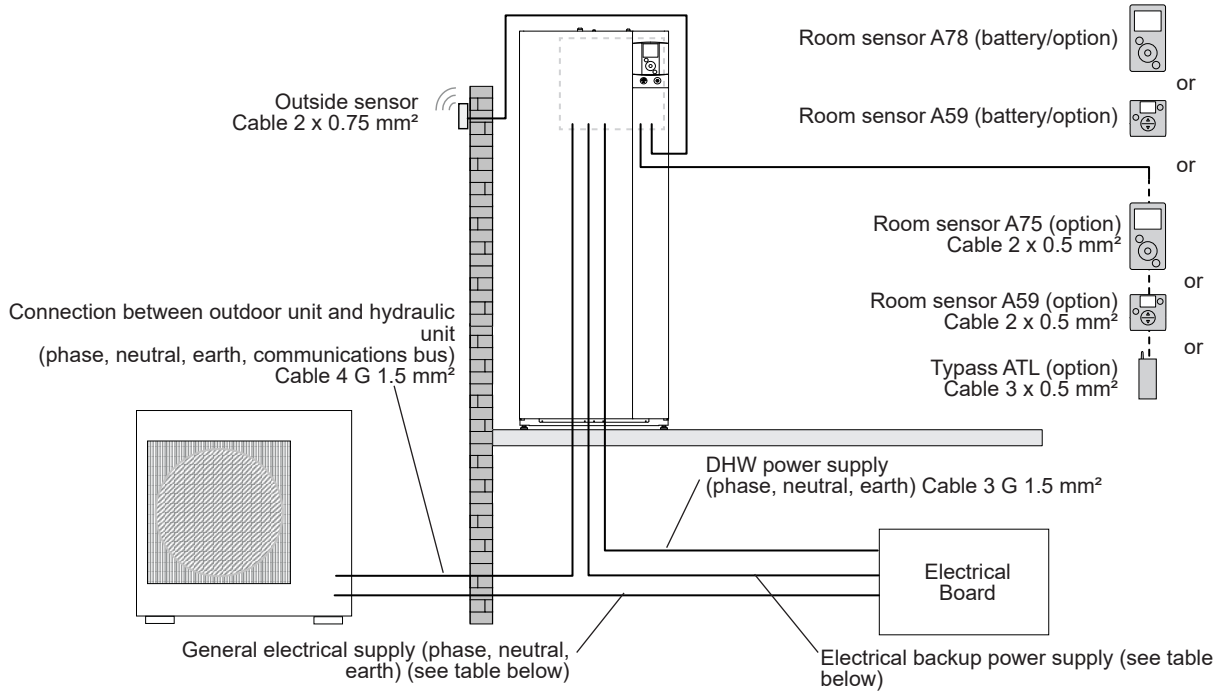

fig. 37 - Overall layout of electrical connections for a simple installation (1 heating circuit)
- Make the connections according to the diagram(s) figure 37, page 26.